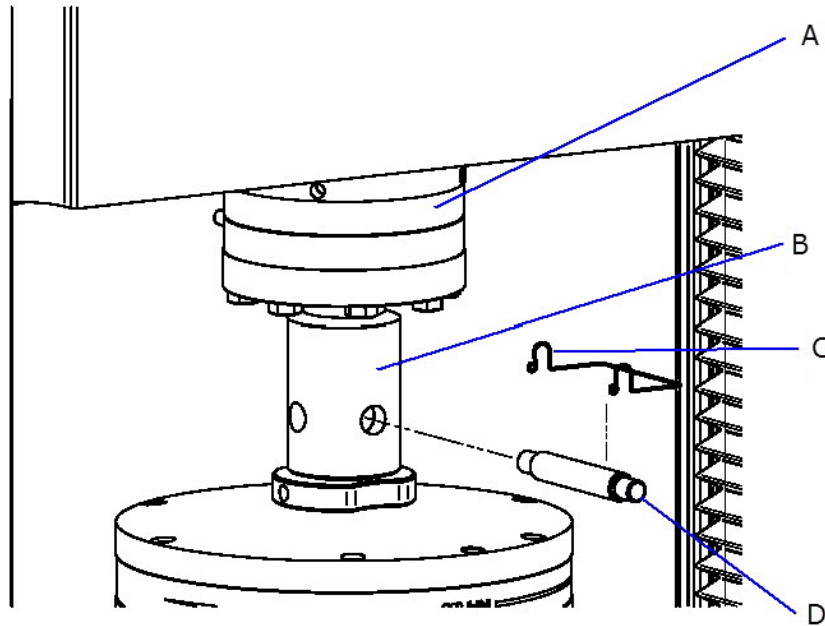

Figure 6. Installing Grip onto Load Frame
1. Insert the adapter on the grip into the female clevis socket on the load frame base or load cell as shown in Figure 6 on page 28.
Refer to Figure 6 on page 28.